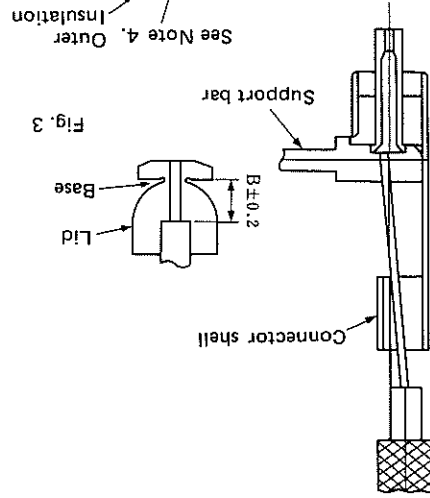

Fig. 3
(1) Pass the cable center conductor through the connector shell, as shown in Figure 3. Then insert the center conductor into the hole in the male terminal while making sure that the connector shell passes between the outer conductor and the cable insulation. Insertion will be completed when the cable insulation reaches the section of dimension "B" specified in the table below. Note 4: The end of the outer conductor must be uniform with respect to the connector shell.